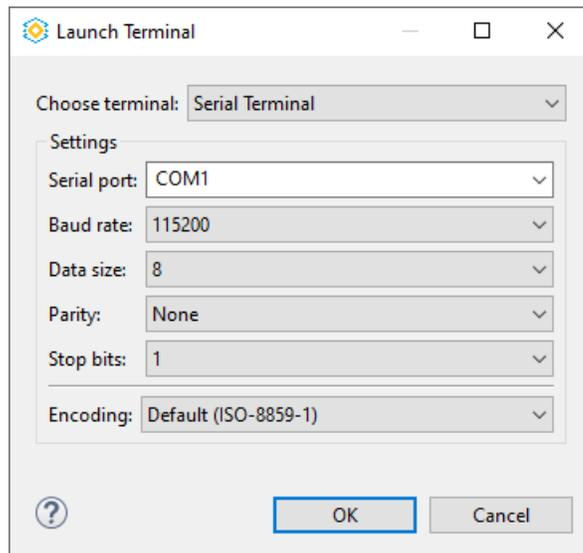

Figure 4.11. Launch Terminal Dialog
3. Choose the **Serial Terminal** and configure the **Serial port** with **Baud rate 115200** (Figure 4.11).